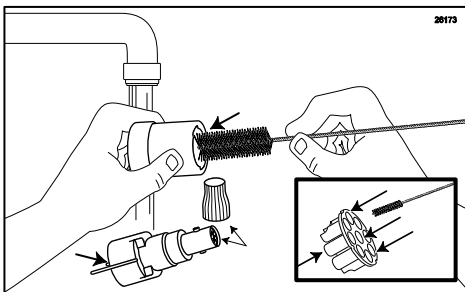

Figure 57
- Clean the Syrup Line Manifold, Manifold cap, Duckbill Check Valve, and Coupler Body using a small brush and detergent water. Be sure that each of the 9 individual check valves is cleaned thoroughly by brushing through each valve opening. Rinse thoroughly. (See Figure 57.)